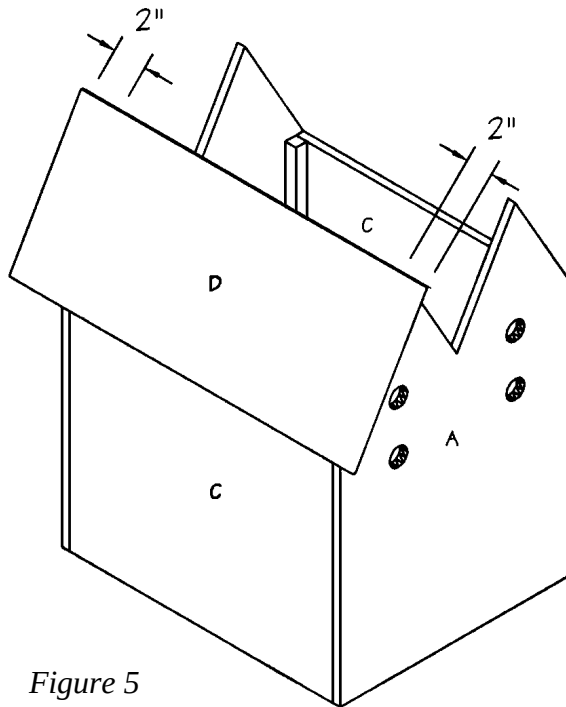

Figure 5
1. Cut two Outer Roofs (D) from 1/4"-thick plywood each measuring 10 x 23-1/2".
2. Turn the assembly right side up, and fit one Outer Roof (D) over one top outer side of the assembly, over the edges of the Front (A), Back (A) and Side (C), as shown in *Figure 5*. The Outer Roof (D) should be flush with the top points of the Front and Back (A), and should extend 2" past the Front (A), Back (A) and Side (C) as shown in *Figure 5*. Apply glue to the meeting surfaces, and nail through the Outer Roof (D) into the edges of the Front (A), Back (A), and Side (C) using 1"-long wire brads spaced about 2" apart.
3. Repeat Step 2 to attach the remaining Outer Roof (D) to the opposite side of the house.
4. Cut two Inner Roofs (E) from 1/4"-thick plywood, each measuring 8 x 23-1/2".
5. Place one Inner Roof (E) over the edges of the Front (A) and Back (A). Check to make certain that the Inner Roof (E) does not overlap the edge of the Outer Roof (D). Trim the width of the Inner Roof (E) if necessary. Apply glue to the meeting surfaces, and nail through the Inner Roof (E) into the Front (A) and Back (A) using four evenly spaced 1"-long wire brads on each joint.
6. Repeat Step 5 to attach the remaining Inner Roof (E) to the opposite side of the assembly.